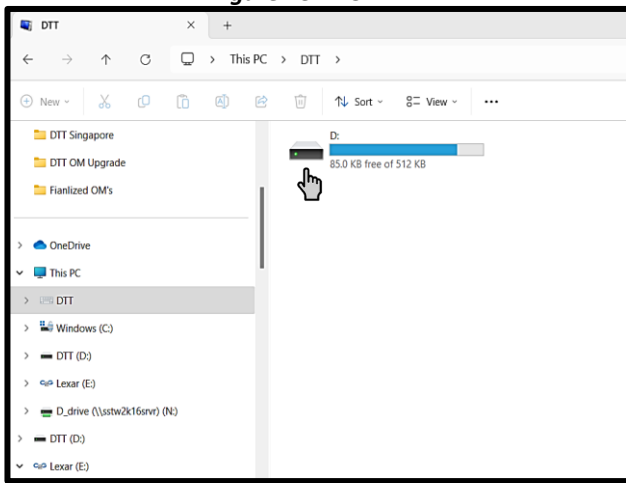

Figure 44: PC
6. Click on "Xa" icon shown on Figure 44.